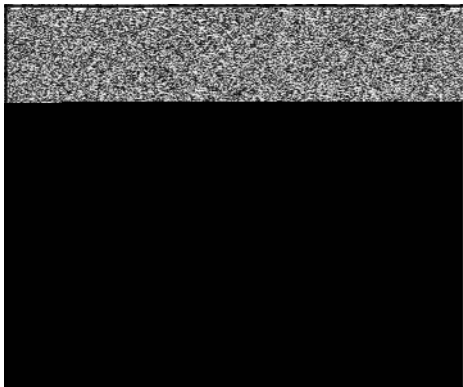

Figure 67
10. Insert new inlet needle (**B**) into the slot on the float (**A**, Figure 67).